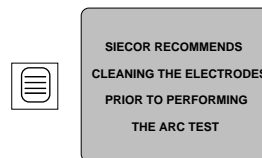

Figure 62
b) If the electrodes are dirty, clean them before the arc test. This prompt will appear for 5 seconds (Figure 62).